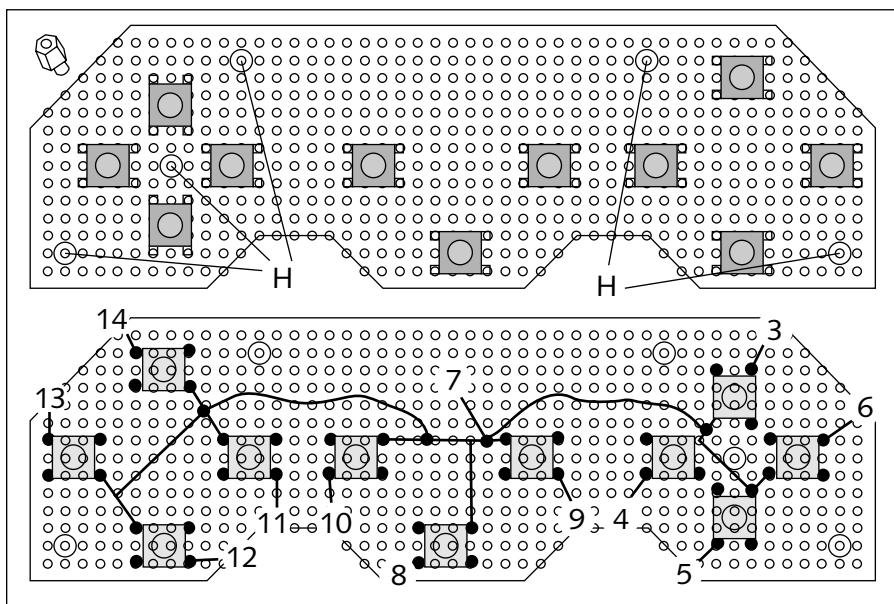
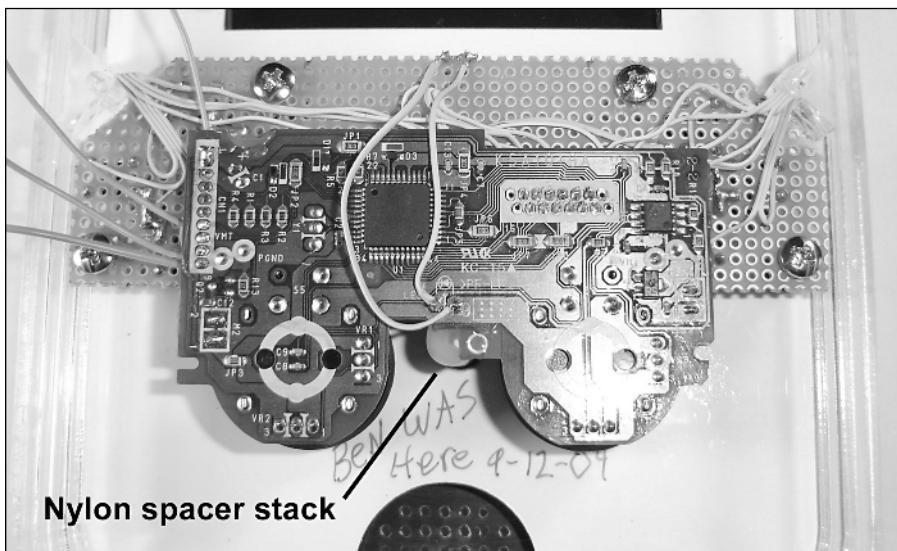

FIGURE 14-14: Placement of tact switches (top drawing) and wiring on the back (bottom drawing).
FIGURE 14-16: The controller board and nylon spacer all securely hot-glued in place!
All right, with the board safely sliced down, you can start putting components on it. Place eleven 6-mm tact switches on the PC board, as shown in Figure 14-14 below. Additional steps follow the photo.
2. Connect the twelve wires from the PC control board to the button connector on the controller board. The numbers on the PC control board drawing (Figure 14-14) refer to the button connector numbers seen in Chapter 12. Use the photo in that chapter as reference for the connections here. Four spots on the controller board will still be unconnected: the shoulder buttons, which we'll attach a little later.
3. Connect eight 3" wires to the controller connector spots on the left side of the controller board. (Again, for reference see Chapter 12.) However, do *not* attach a wire to spot #2. This is why there are eight wires for (9) spots.
6. Finally, put some hot glue between the controller board and the PC control board to lock it in place. (Hey, it's the easiest way!) The result should look like what you see in Figure 14-16.